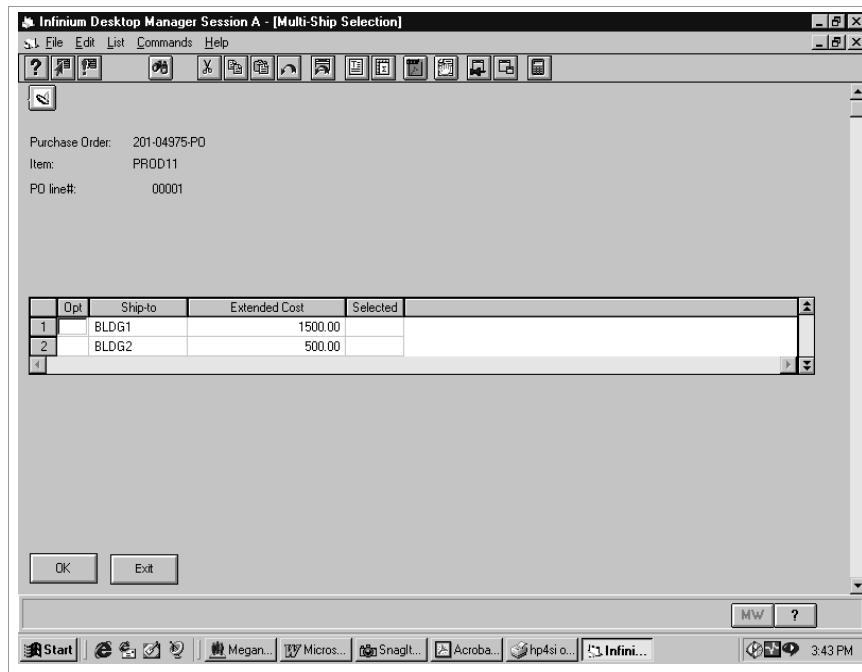

Figure 5-13: Multi-Shipment Selection screen
The system displays the screen shown in Figure 5-13.
- 3 Exit or cancel to return to the Receipt Summary Selection screen as shown in Figure 5-13.